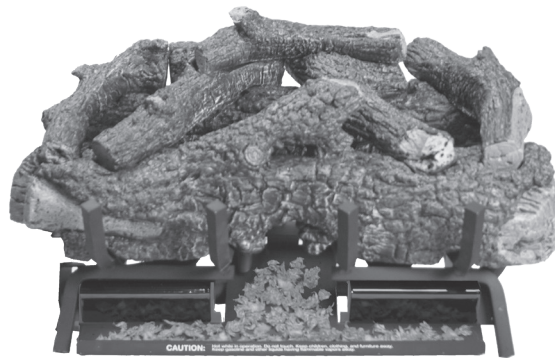

Fig. 19-4 Place bryte coals
2. Separate the bryte coals into small pieces, and evenly place them over the glowing embers as shown in Fig. 19-4.